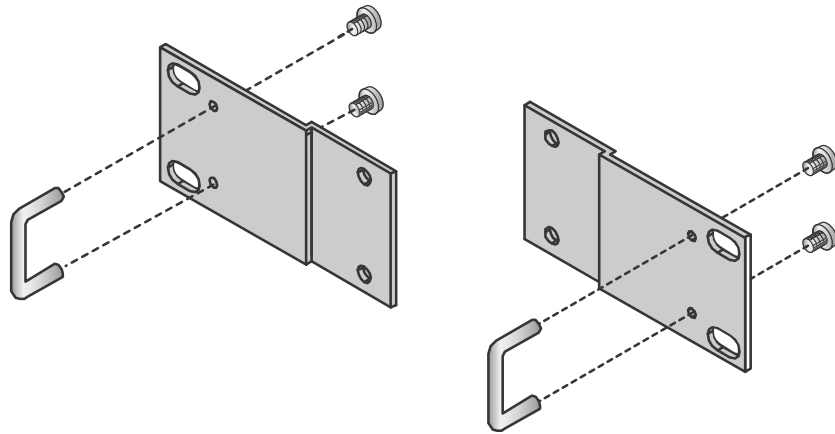
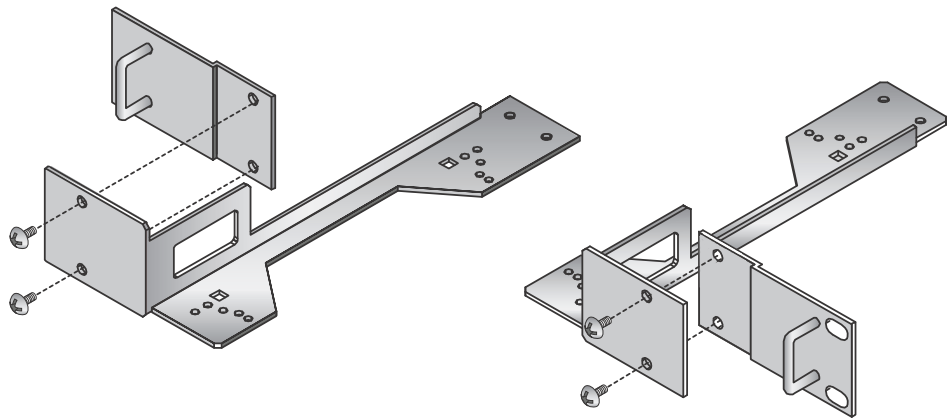

Figure 21. Fitting rack mount handles to the brackets for an AT-x210-9GT
Figure 22. Fitting brackets to the mounting for an AT-x210-9GT
7. For AT-x210-9GT switches, first fit the rack mount handles to the brackets using the supplied M3x6mm pan head screws, as shown below in Figure 21.
8. After fitting the rack mount handles to the brackets using the supplied M3x6mm pan head screws, as shown about in Figure 21, fit these brackets with handles to the mounting for AT-x210-9GT switches using the supplied M4x6mm countersunk screws, as shown below in Figure 22.